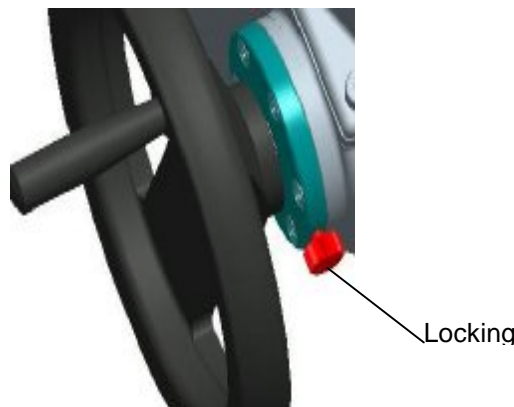

Fig.15
- Before manual control must be realized locking screw (**Fig.15**). Fasten locking screw after finishing of manual control.